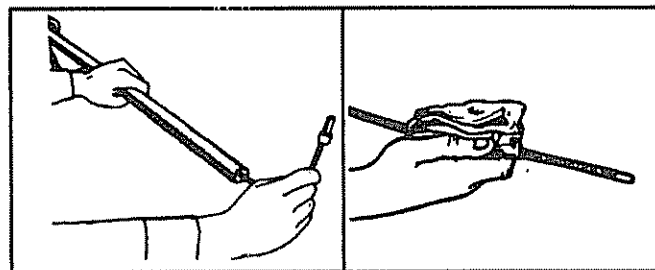

Figure 23
6. Remove drive shaft from the tube. Figure 23 .